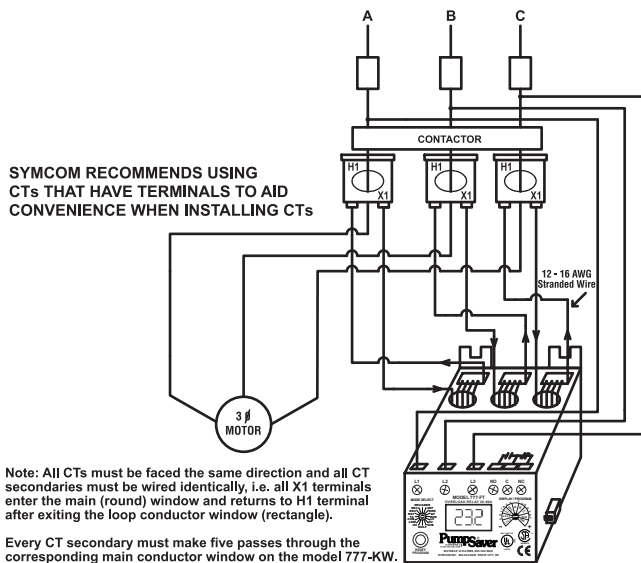

FIGURE 3: TYPICAL WIRING DIAGRAM USING EXTERNAL CTs
- 2.3 For amperages greater than 90 amps, external CT's (current transformers) are required. SymCom recommends CT's with terminals be used for ease of installation. All CT secondaries must make five passes through the round holes on the MotorSaver. See Figure 3 for a typical wiring diagram using external CT's.